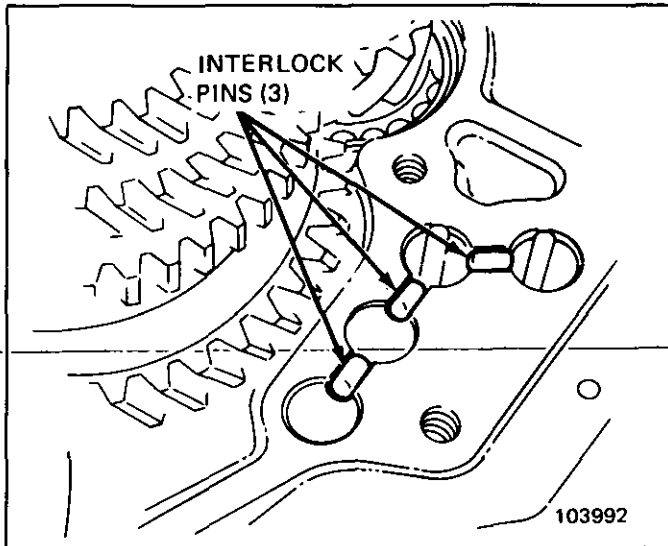

Figure 42 Interlock Pins
3. Apply grease to three interlock pins, and install them on the clutch housing (Figure 42).